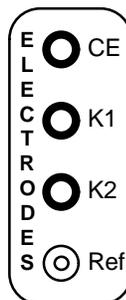

FIGURE 3: ELECTRODE CONNECTIONS
There are four jacks located on the far right side of the front panel that are used to make connections to the electrochemical cell (see Figure 3). The upper banana jack is a low impedance output to the auxiliary or counter electrode (CE).